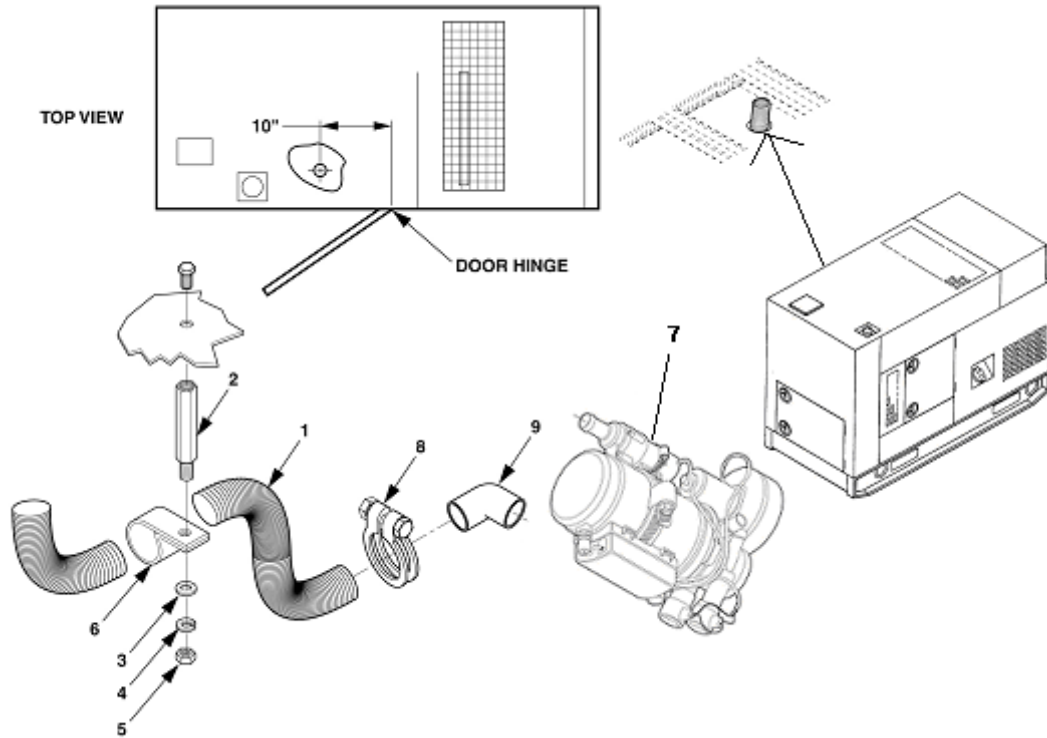

Figure 4-43. Exhaust Hose Removal
Inspect rope heater, Figure 4-43, for breaks, corrosion.
12. Remove hose (1), Figure 4-43, and hardware (2, 3, 4, 5, 6, and 8). Remove exhaust elbow (9) from heater (7). Screw is secured with nut. If necessary, add spacer to prevent threads from protruding.